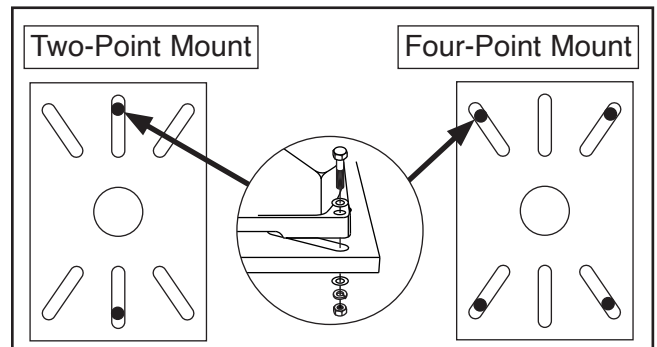

Figure 9. Two-point & four-point mounting.
The Model H7763 comes with (2) M8-1.25 x 60 hex bolts, (4) 8mm flat washers, (2) 8mm lock washers, and (2) M8-1.25 hex nuts, suitable for two-point mounting (see **Figure 9**). Four-point mounting will require additional fasteners.